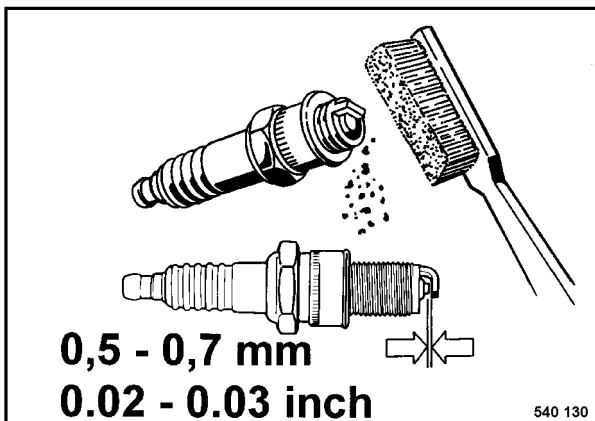

Fig. 3
- Unscrew the spark-plug, inspect the spark-plug visually and clean if necessary (Fig. 3).